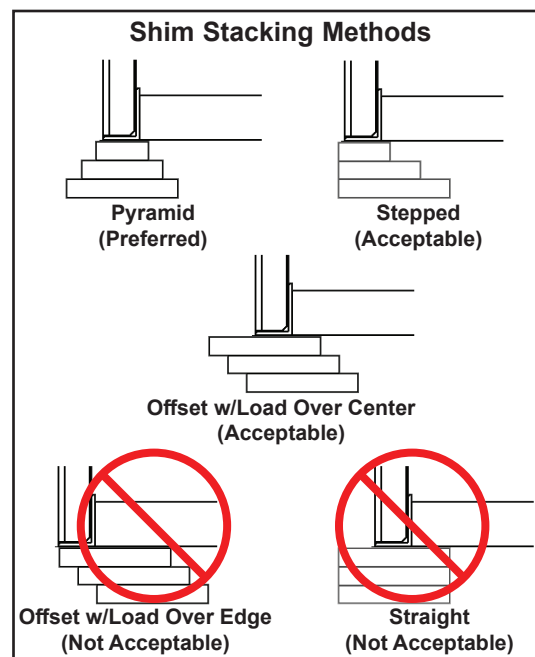

Figure 14
18. Install shims at locations (**B and E**) using an appropriate shimming method (see Figure 14). Both platform cylinder trunnions must be solidly shimmed the entire length of the trunnion. Make sure the trunnions are level from side-to-side as well as from front-to-back.